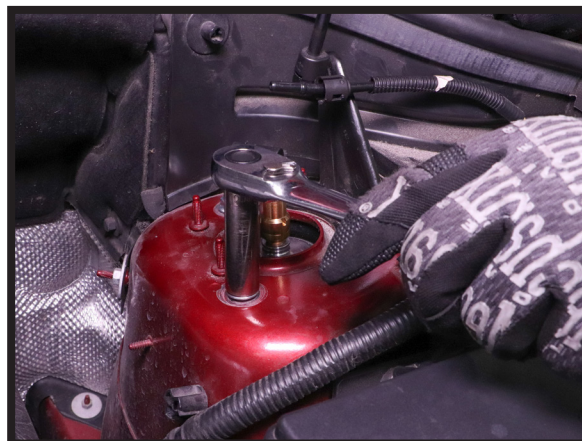

FIGURE 38
9. REINSTALL THE THREE (3) TOP MOUNT NUTS AND TIGHTEN TO MANUFACTURER'S SPECIFICATIONS. (FIGURE 38)